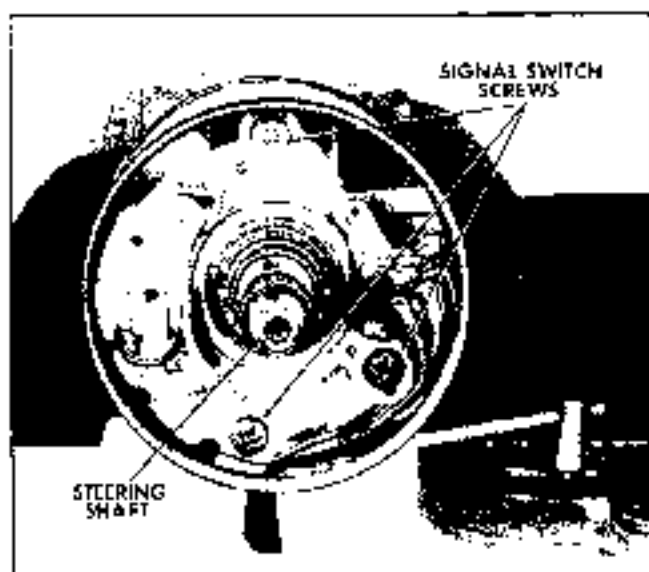

Fig. 9-22 Signal Switch Removal
8. Remove the three signal switch screws with a Phillips screwdriver and let the signal switch assembly hang by its wires (Fig. 9-22).